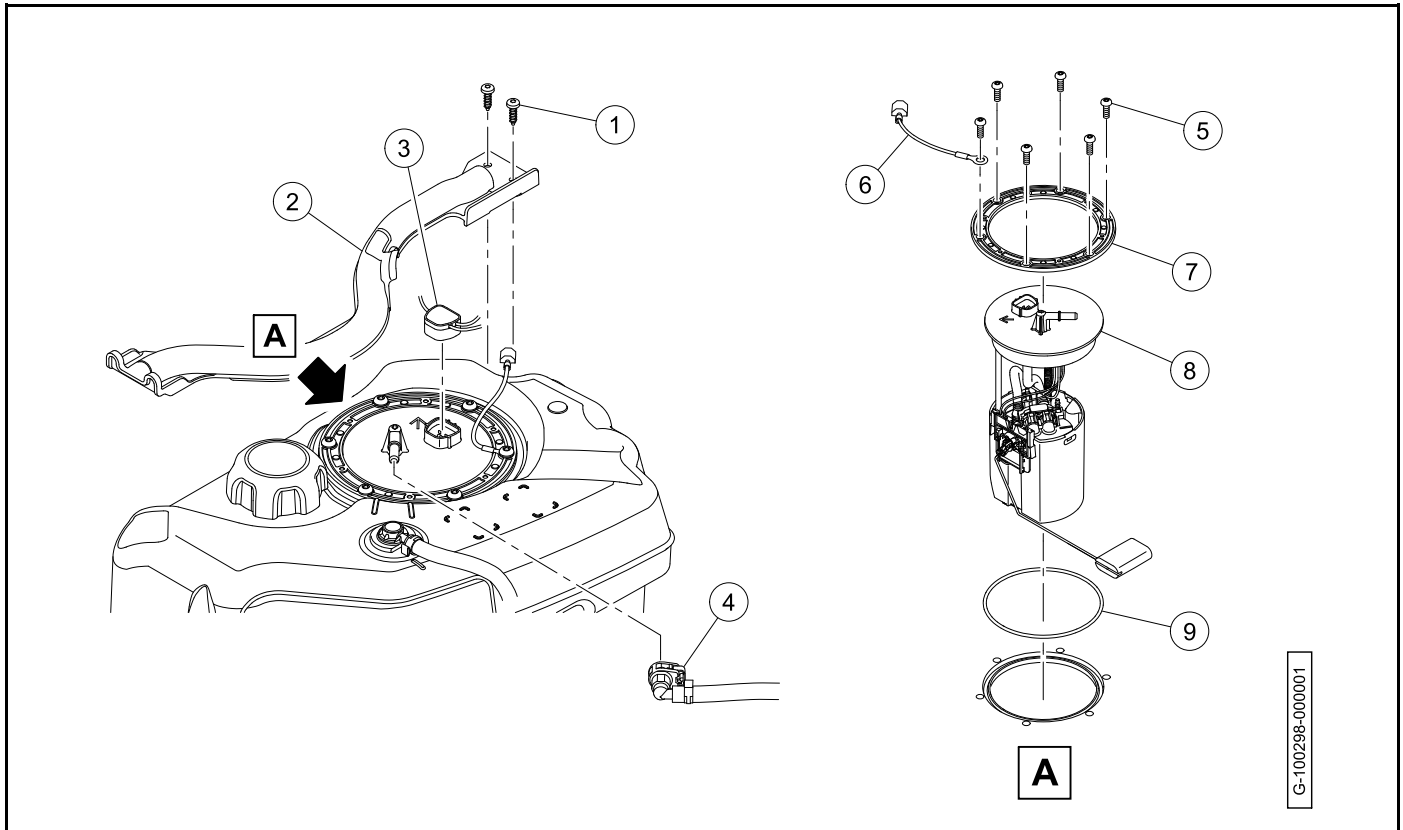

Figure 21-20 Fuel Pump Module Installation
2. Install the new fuel module o-ring (9) into groove on top of fuel tank (Figure 21-20, Page 21-19).